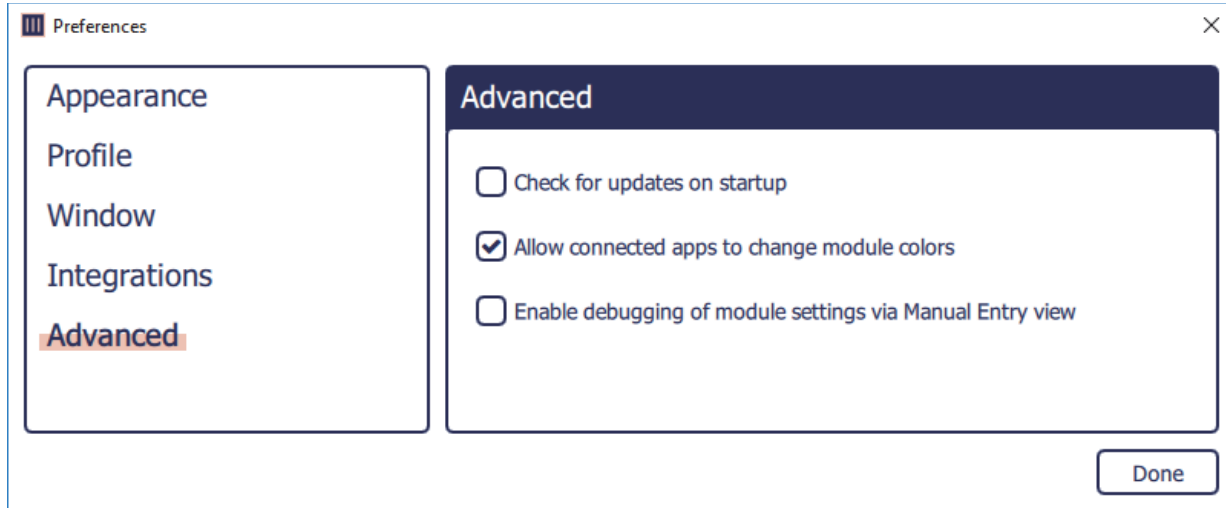

Figure 23 - The Preferences Window for Monogram Creator (showing Advanced preferences)
3. In the menu on the left side, click **Advanced**, and then clear the **Check for updates on startup** check box (Figure 23).